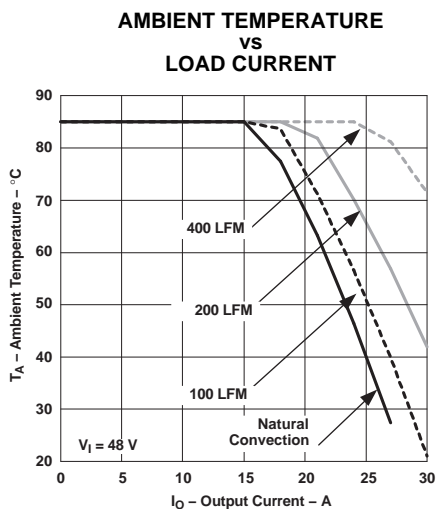

Figure 8.
- (2) The temperature derating curves represent operating conditions at which internal components are at or below manufacturer's maximum rated operating temperature. Derating limits apply to modules soldered directly to a 100–mm × 100–mm, double-sided PCB with 2 oz. copper. For surface mount packages, multiple vias (plated through holes) are required to add thermal paths around the power pins. Please refer to the mechanical specification for more information. Applies to Figure 8.